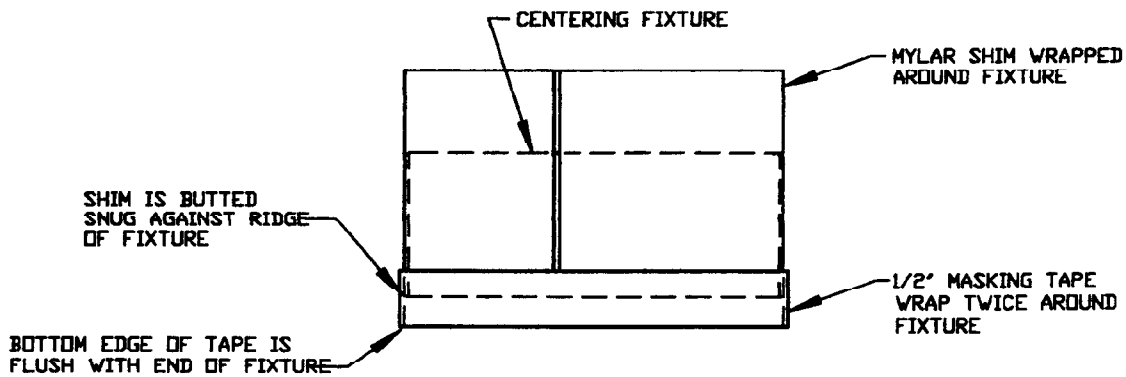

FIGURE 4
6. SLIDE THE COIL FORM ASSEMBLY OVER THE MYLAR SHIM ON THE CENTERING FIXTURE (SEE FIGURE 4) UNTIL THE TOP OF THE COIL FORM TOUCHES THE TAPE ON THE FIXTURE.